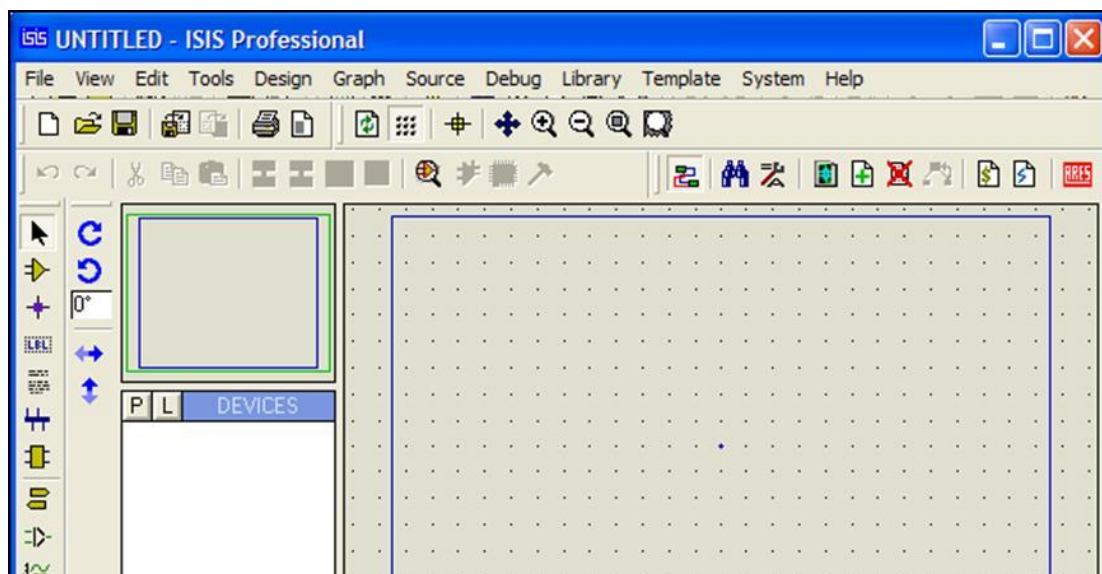

Figure 1: A screen shot of the Proteus IDE
2. The cathode has a flat surface as shown in Figure 1.
In order to simulate the circuit point the mouse over the Play Button on the animation panel at the bottom right of the screen see Figure 1 and click left. The status bar should appear with the time that the animation has been active for.